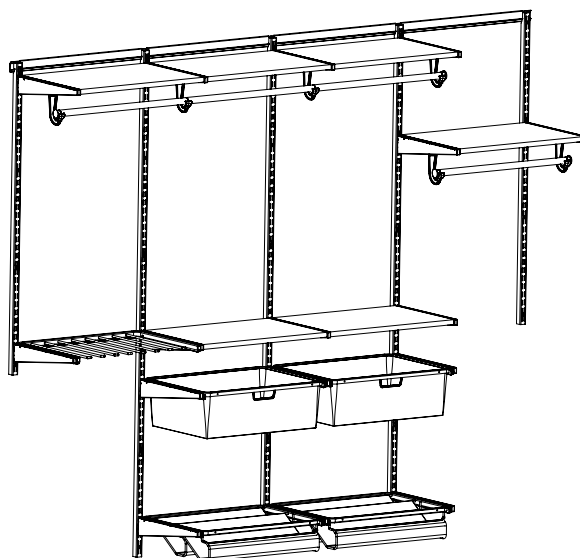

Figure 1
STEP 3: Install shelf brackets by removing the top plastic caps (it's easiest from the front) and inserting into the wall standards in the configuration as shown in **Figure 1**.